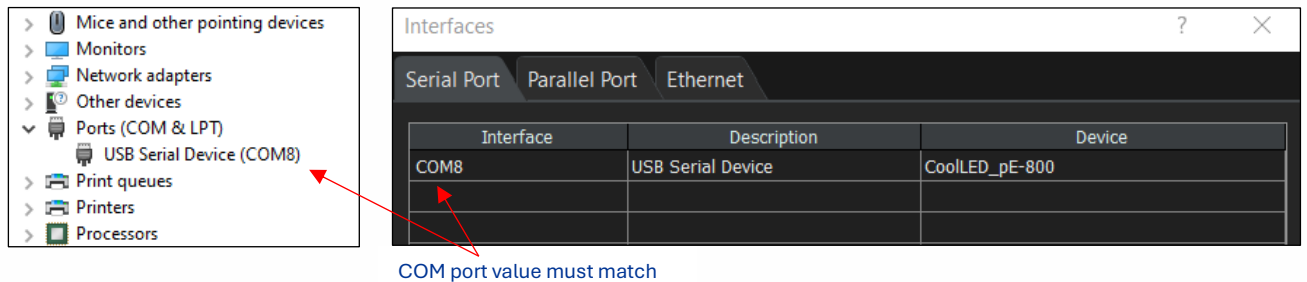

Figure 9: 'Interfaces' in cellSens. Ensure COM port number (e.g., COM8) matches Windows Device Manager
4. Ensure the COM port identified under 'Interface' matches the one assigned within the Windows Device Manager (Figure 9). If the COM port listed under 'Interface' is incorrect, change this to the COM port number shown in 'Device Manager'.